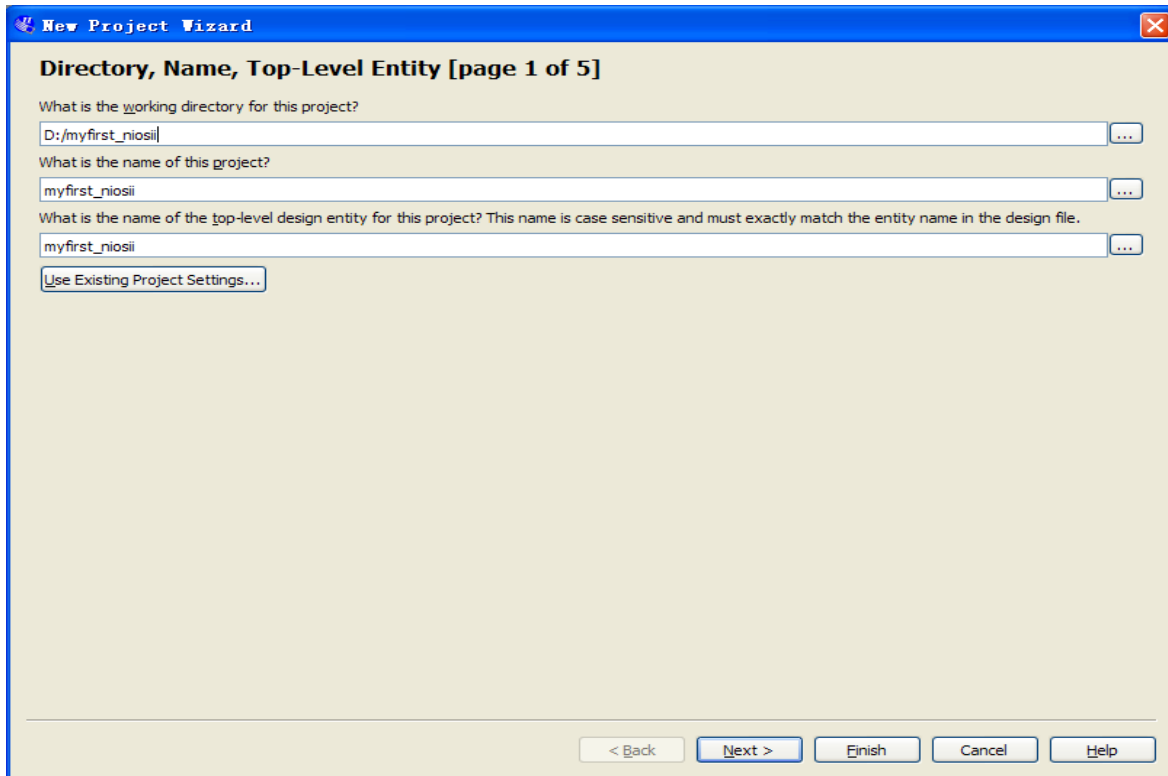
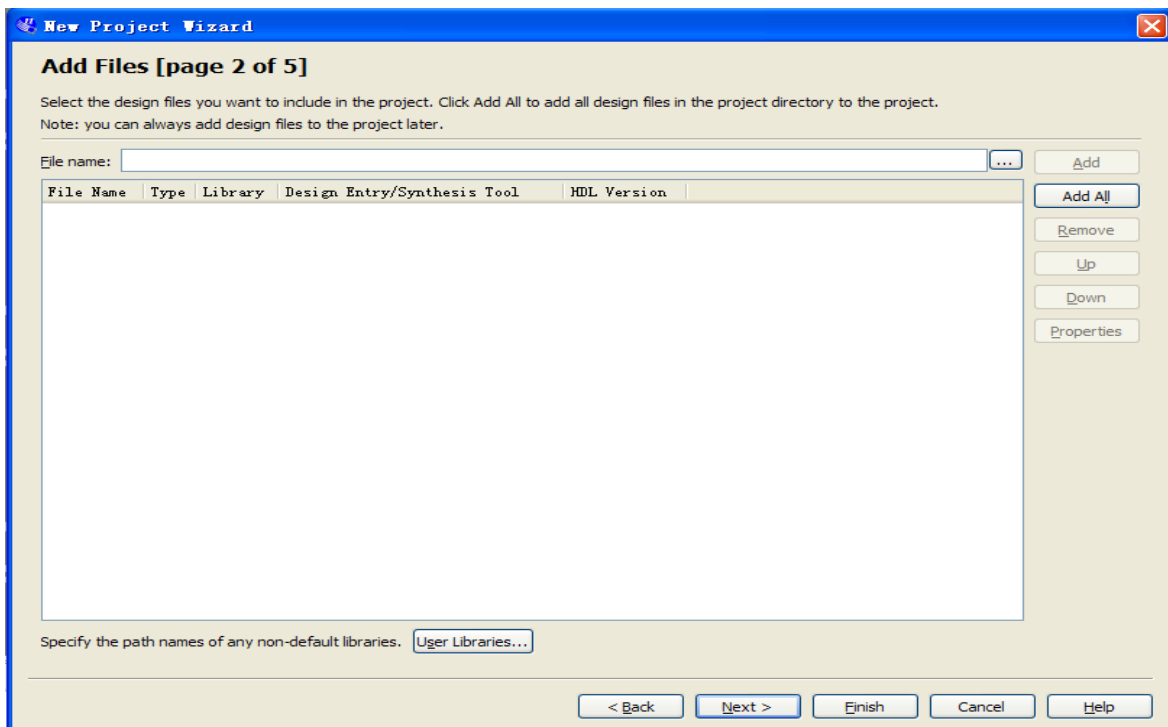

Figure 7-3 Input the working directory, the name of project, top-level design entity
Figure 7-4 New Project Wizard: Add Files [page 2 of 5]
2. Choose a working directory for this project, type project name and top-level entity name as shown in **Figure 7-3**. Then click **Next**, you will see a window as shown in **Figure 7-4**.